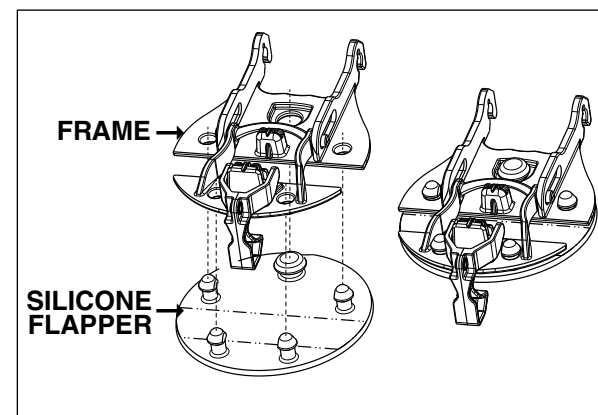

FIGURE 3
- Firmly grab silicone gasket and massage the tabs from one side of the flapper while pulling away from the plastic frame **FIGURE 3**
- Push the tabs on the silicone flapper through appropriate openings of flush valve frame **FIGURE 3**